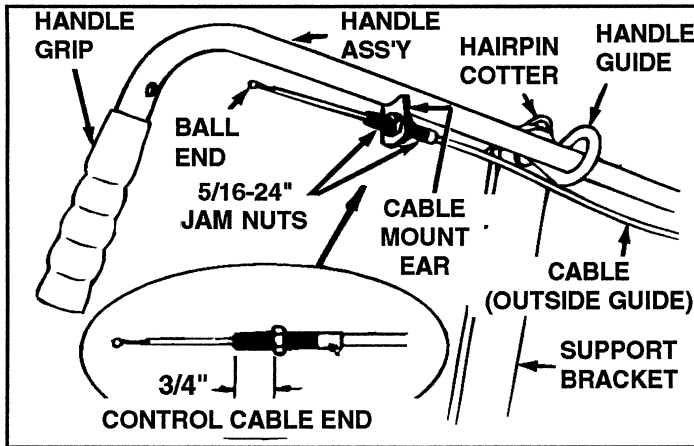
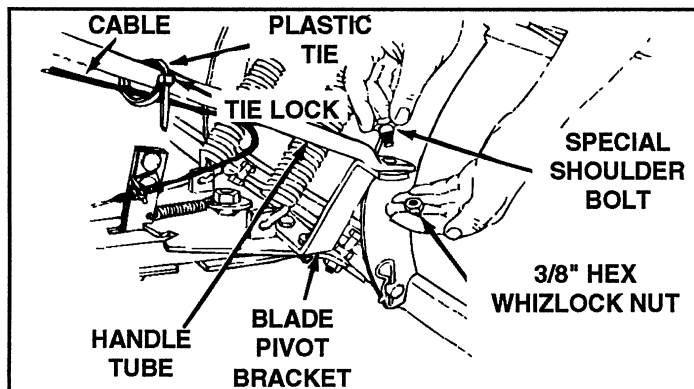
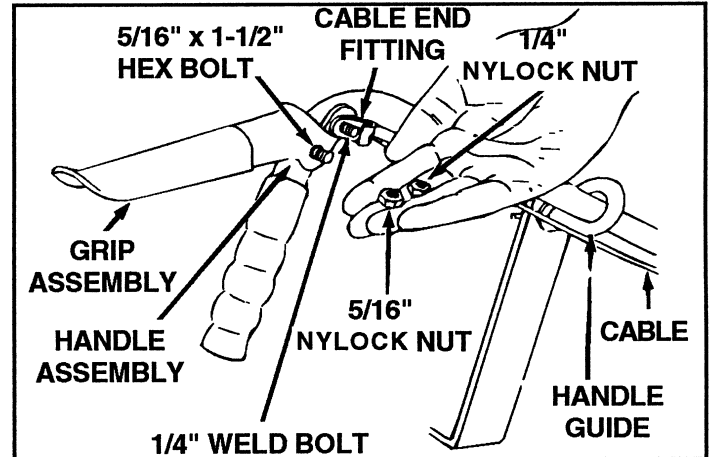

FIGURE 23
FIGURE 24
FIGURE 25
24. Assemble handle assembly down through handle guide as shown in figure 23. Secure lower end of handle to top side of blade pivot bracket with special shoulder bolt (on top) and 3/8 inch hex whizlock nut underneath. See figure 24.
25. Assemble one 5/16-24 inch jam nut onto threaded end of control cable approximately 3/4 inch from end. Assemble threaded end of cable up through cable mount ear and secure with second 5/16-24 inch jam nut. See figure 23.
26. Assemble handle grip onto end of handle if not already pre-assembled. See figure 23.
27. Wrap plastic tie around handle tube and cable, (see figure 24), assembling end of tie through lock. Pull plastic tie tight to retain cable to handle tube near front of tractor hood. Cut off extra plastic end.
29. Assemble ball end of cable (see figure 23), through round hole in cable end fitting and into slot of fitting. See figure 25. Assemble cable end fitting over 1/4 inch weld bolt on grip assembly and secure with one 1/4 inch nylock nut. **NOTE: Do not over tighten lock nut, cable fitting must pivot freely.**